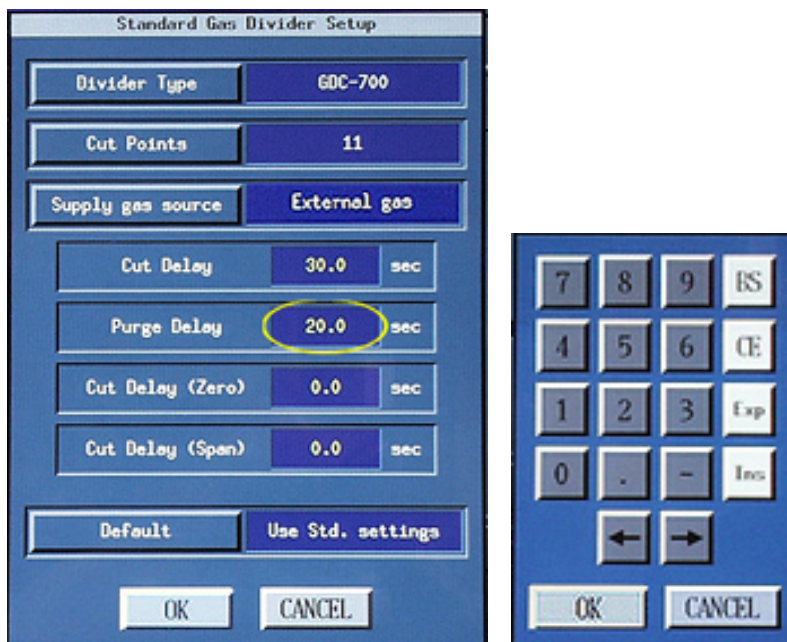

Figure 12
- 119 Verify that the field for “Purge Delay” displays “30.0.” for NOx and CH4, “20.0” for all other gases. If it doesn’t, click in the field and use the on-screen keypad to enter the correct data. See the circle in Figure 12. On the key pad, click on “OK.”